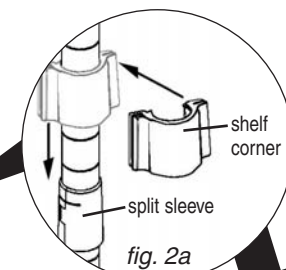

fig. 2a
- Insert the four shelf corners onto posts above split sleeves, and drop into place (see fig. 2a).
- Insert the four shelf corners onto post above split sleeves, and drop into place (see *fig. 2a*).